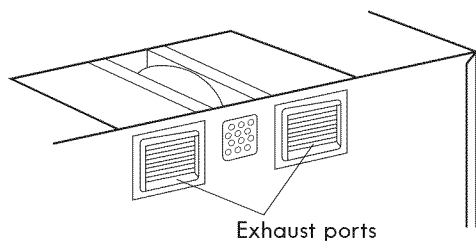

Figure 16
6. Place blower unit back into cabinet. Check that the exhaust ports face towards the rear of the cabinet. See Figure 16.